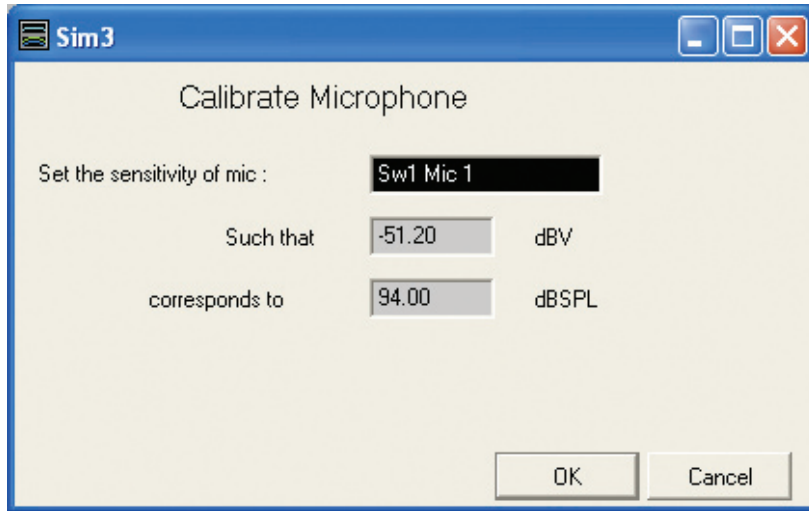

Figure 7. The Calibrate Microphone dialog box
4. In the dialog box, the mic name is shown, along with the measured dBV value and the dB SPL value (Figure 7). Make sure the dB SPL value is the same as the calibrator's value. If not, type the calibrator's value (usually 94 dB) into the dB SPL field. Press **OK**.